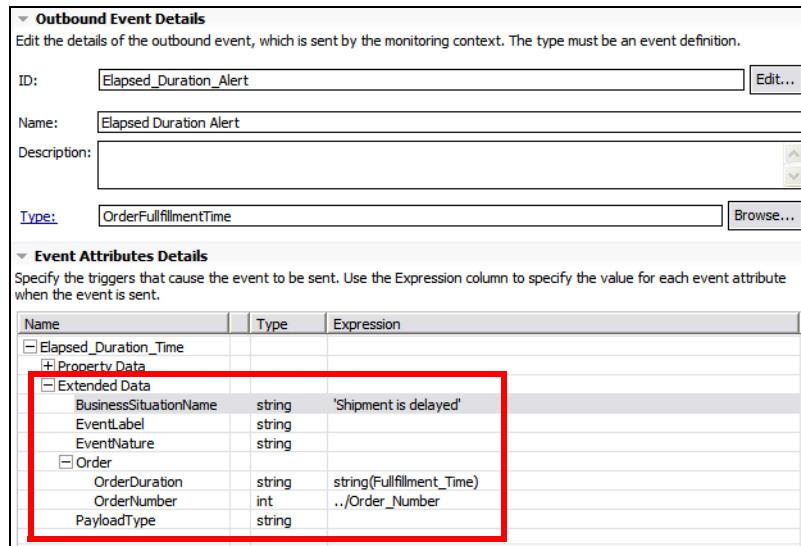

Figure 12-57 Outbound event with attributes
- ▶ Expand the trigger sections (Figure 12-57).